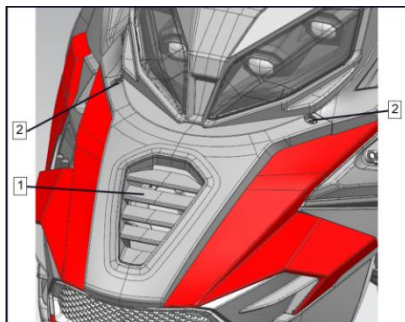

Fig. 33
1. Use the puller to take out the air extraction clamp (Position 2, Figure 33) from both sides of the hood (Position 1, Figure 33).